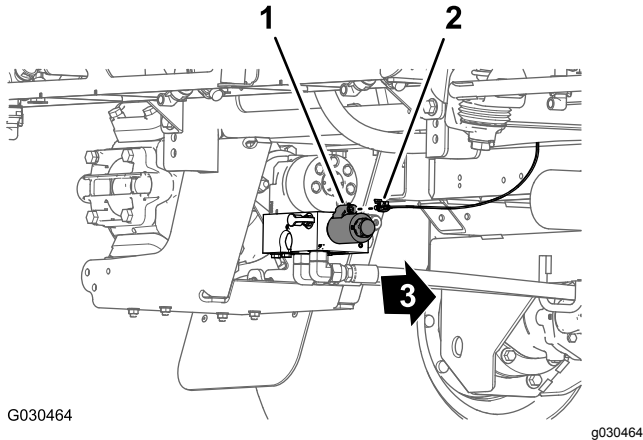

Figure 107
1. At the back of the machine—inboard of the sprayer pump, connect the 2-socket connector labeled **Spray Pump Solenoid** of the 86 cm (34 inch) wire-harness branch into the 2-pin connector of the relay for the pump (Figure 107).